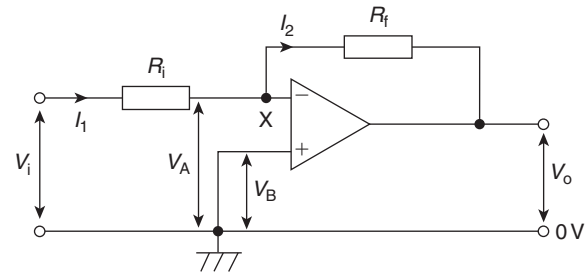
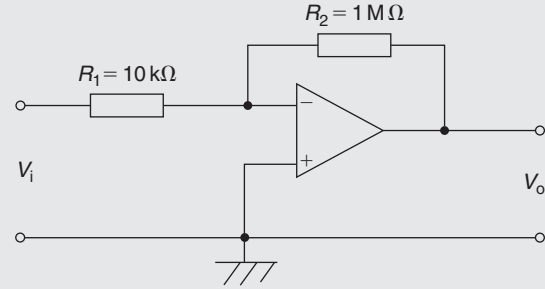

Figure 19.5
Figure 19.6
Operational amplifiers nearly always use **negative feedback**, obtained by feeding back some, or all, of the output to the inverting (–) input (as shown in Fig. 19.5 in the next section). The feedback produces an output voltage that opposes the one from which it is taken. This reduces the new output of the amplifier and the resulting closed-loop gain A is then less than the open-loop gain A_o . However, as a result, a wider range of voltages can be applied to the input for amplification. As long as $A_o \gg A$, negative feedback gives:
The basic circuit for an inverting amplifier is shown in Fig. 19.5 where the input voltage V_i (a.c. or d.c.) to be amplified is applied via resistor R_i to the inverting (–) terminal; the output voltage V_o is therefore in anti-phase with the input. The non-inverting (+) terminal is held at 0 V. Negative feedback is provided by the feedback resistor, R_f , feeding back a certain fraction of the output voltage to the inverting terminal.
- the inputs are both at the same potential if the op amp is not saturated, i.e. $V_A = V_B$ in Fig. 19.5
In Fig. 19.5, $V_B = 0$, hence $V_A = 0$ and point X is called a **virtual earth**. Thus,
Problem 4. In the inverting amplifier of Fig. 19.5, $R_i = 1\text{ k}\Omega$ and $R_f = 2\text{ k}\Omega$. Determine the output voltage when the input voltage is: (a) +0.4 V (b) –1.2 V.
Problem 5. The op amp shown in Fig. 19.6 has an input bias current of 100 nA at 20 °C. Calculate (a) the voltage gain, and (b) the output offset
Comparing Fig. 19.6 with Fig. 19.5, gives $R_i = 10\text{ k}\Omega$ and $R_f = 1\text{ M}\Omega$
(c) The effect of input bias current can be minimised by ensuring that both inputs ‘see’ the same driving resistance. This means that **a resistance of value of 9.9 kΩ (from part (b)) should be placed between the non-inverting (+) terminal and earth** in Fig. 19.6
With reference to Fig. 19.5, and from equation (5),
4. In the inverting amplifier of Fig. 19.5 (on page 298), $R_i = 1.5\text{ k}\Omega$ and $R_f = 2.5\text{ k}\Omega$.